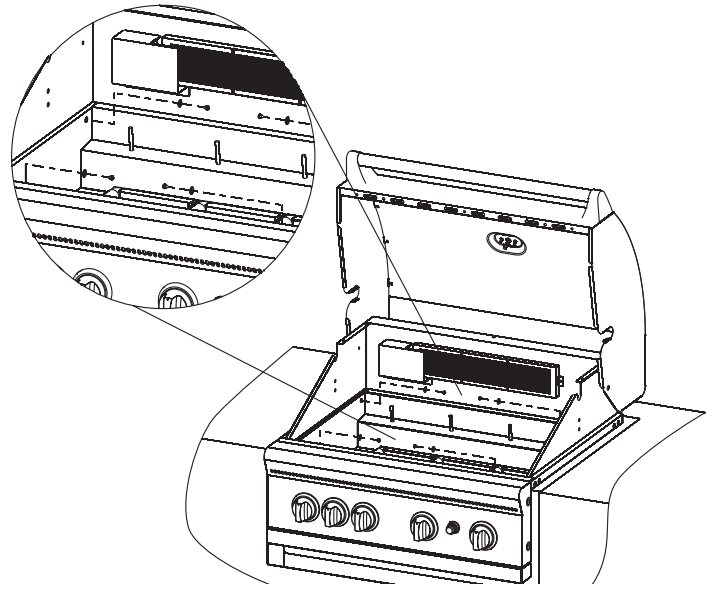

Figure 6
- Attach grill head to surround from inside of the grill with four (4) lock washers, and 1/2" screws (provided). See Figure 6.